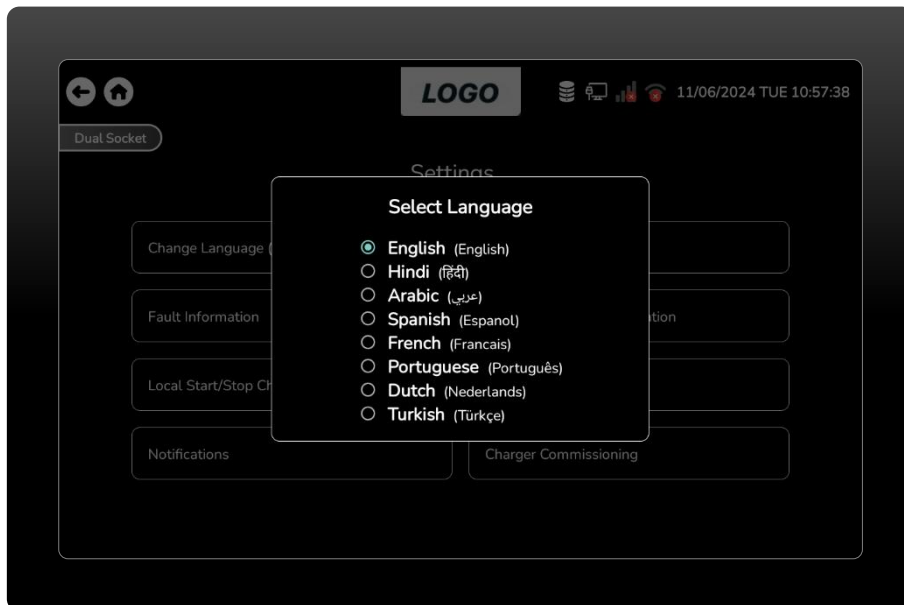

Figure 8 Language Selection Screen.
- This is a language pop-up on the screen that allows the user to pick any language that they desire. This language modification will apply throughout the entire charging procedure. (Figure 8)